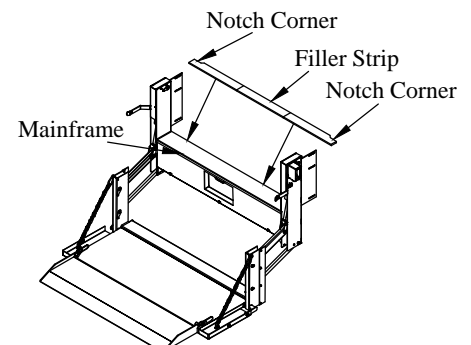

Figure 8: Filler strip placement.
4. **Weld** the filler strip to the liftgate with the weld side facing down (Figure 8).